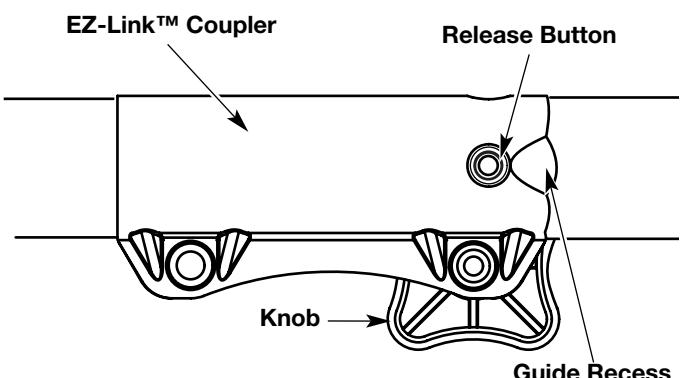

Fig. 14
1. Turn knob counterclockwise to loosen (Fig. 14).
NOTE: Aligning the release button with the guide recess will help installation (Fig. 14).